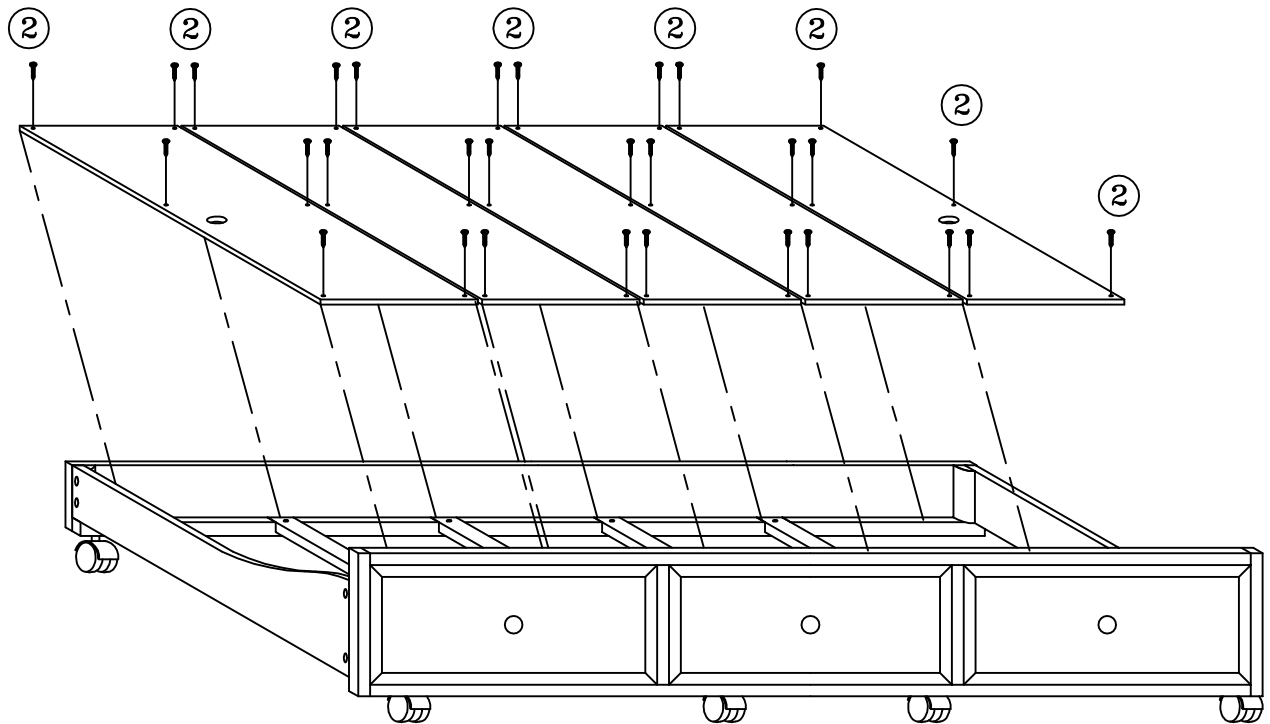

FIGURE 4
- Place supports (10) inside of trundle unit. See Figure 4
- Secure supports (10) with screws (2). See Figure 4